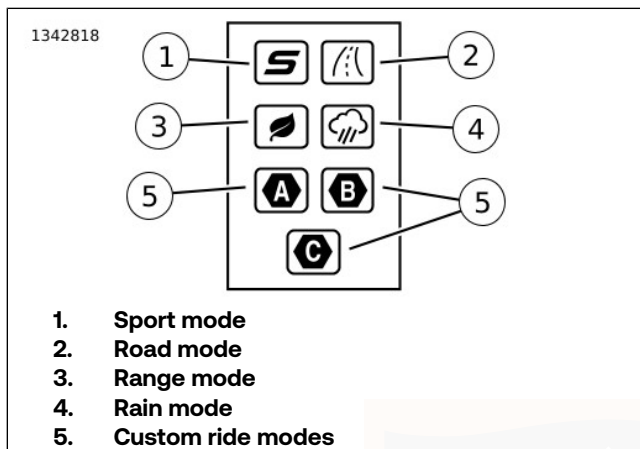

Figure 36. Ride Mode Widget (Rectangle IM)
Rectangle IM: See Figure 36. The ride mode widget displays the seven available ride mode icons, four pre-set (1,2,3,4) and three custom (5). Current selectable ride modes will be shown